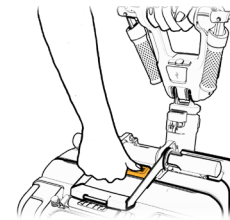

Figure 5
3. Press the central release button until it clicks and remains pressed down (see Figure 5).